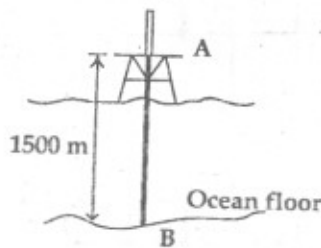

Fig. 11
8. (a) The oil rig at A has just started to drill for oil on the ocean floor at a depth of 1500 m. Knowing that, the top of the 200 mm diameter steel drill pipe rotates through two complete revolutions before the drill bit at B starts to operate. Determine the maximum shearing stress caused in the pipe by torsion. (Fig. 11) Take $G = 77 \text{ GPa}$. [8]